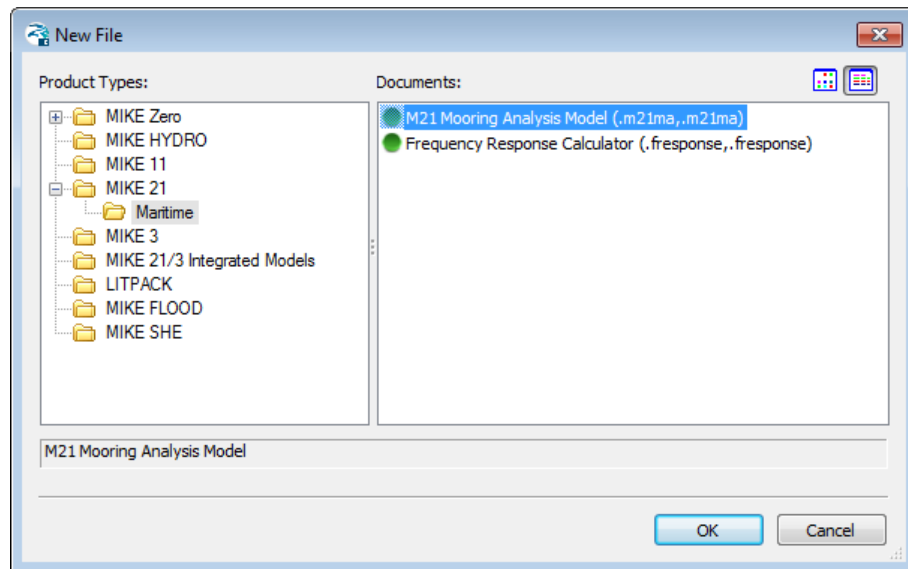
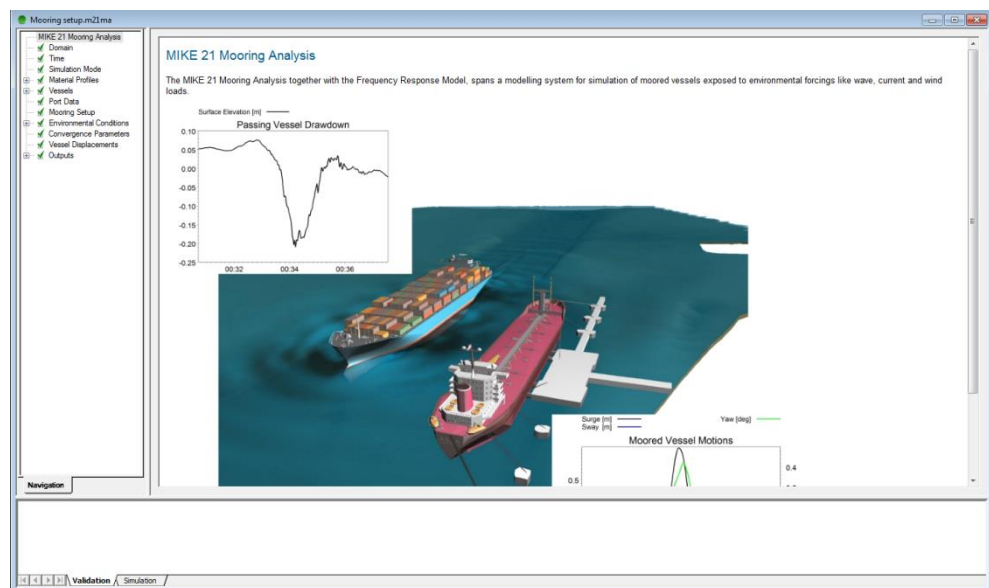

Figure 2.4 Location of MIKE 21 Mooring Analysis setup editor
Figure 2.5 M21 MA main page
1. Open a new instance of the (.m21ma) editor as showed in Figure 2.4 by clicking OK. The M21 MA main page (Figure 2.5) should appear on the screen.